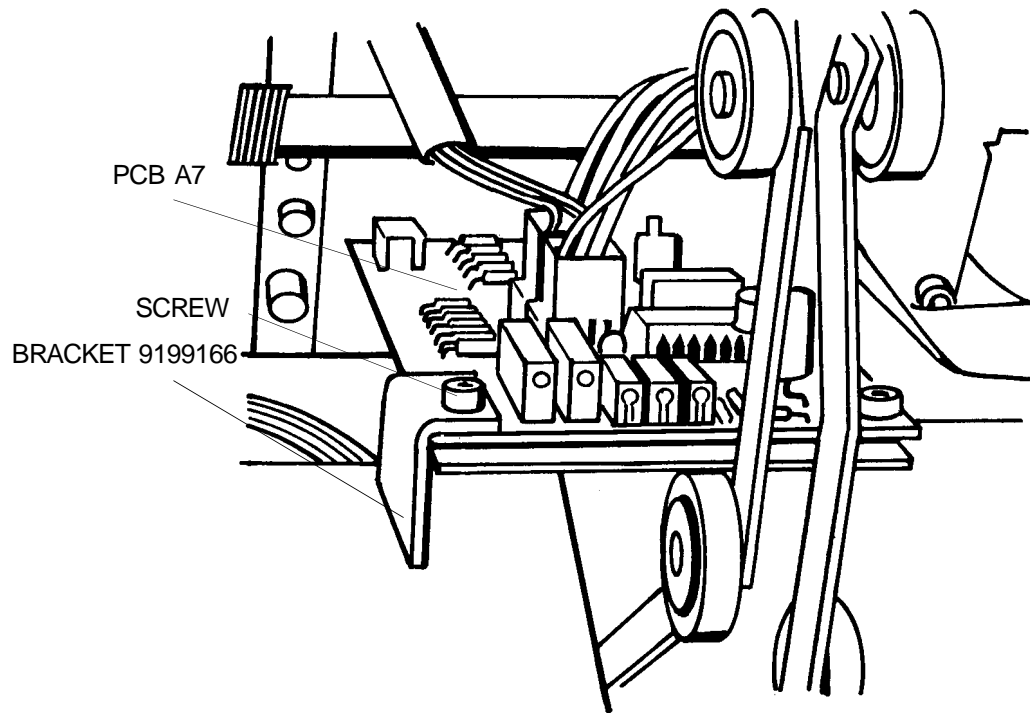

figure 7
**11.** Install BRACKET 9199166 on PCBA7 using existing SCREW. See figure 7.